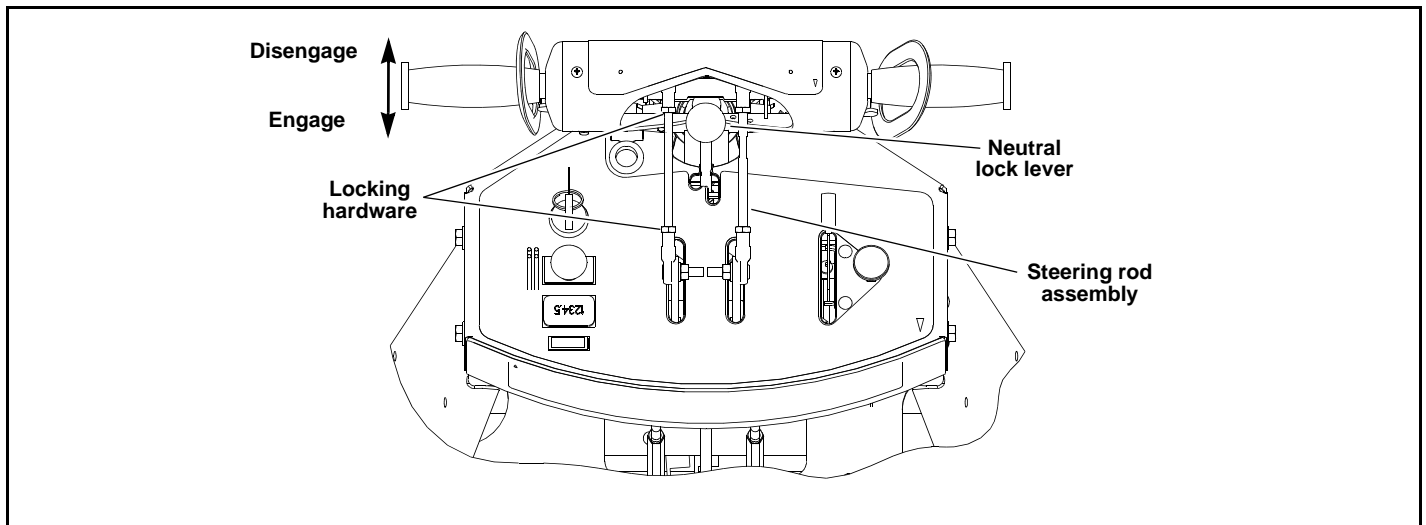

Figure 4-3
4. Place the neutral lock/park brake lever in the park brake position with the engine running. Figure 4-3
1. If the unit pulls to the right, loosen the lock nuts on the right hand steering rod assembly. If the unit pulls to the left, loosen the lock nuts on the left hand steering rod assembly. Figure 4-3
3. While driving, adjust the steering rod assembly by rotating the center adjustment rod until the tractor tracks straight. Figure 4-3
5. Tighten the lock nuts on the steering rod assembly. Figure 4-3